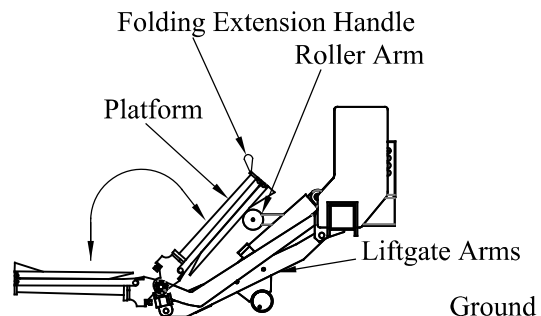

Figure 39: Step 11.
- With the liftgate arms touching the ground, stand to the side of the platform, and **fold** the platform closed until it rests on the roller arm (Figure 39).